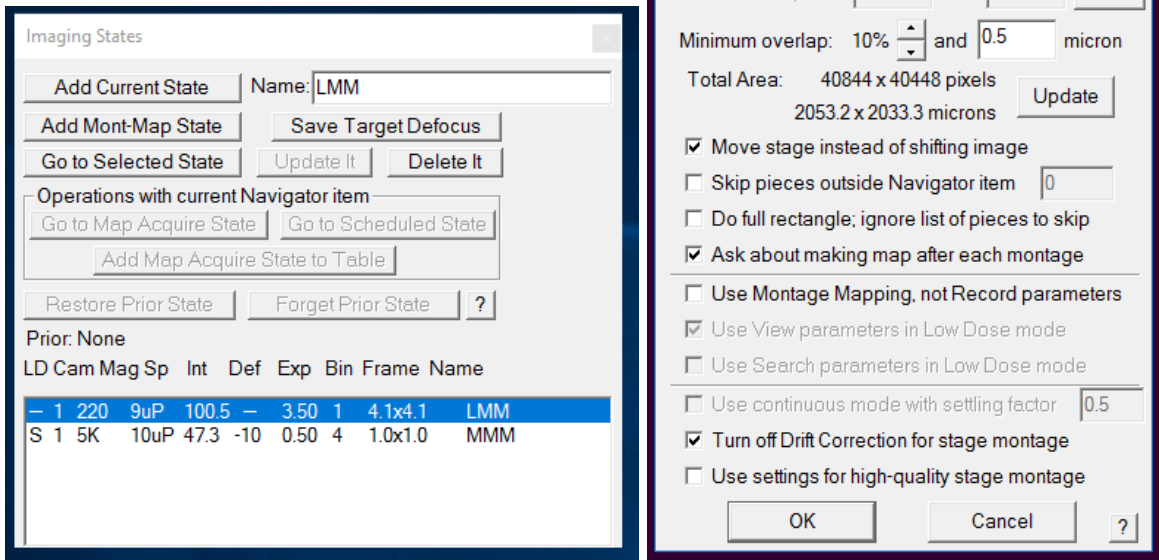

Figure 2: Image of the Imaging States Panel (left) and the Full Grid Montage Panel (right).
- c. Check and adjust the beam intensity on the screen. Take a Record image to see that the captured image looks good. Adjust the beam intensity and/or exposure time as needed. If you want to avoid having to change the exposure time for Record, it is also possible to set separate exposure time under Montage Mapping in camera setup and then use those for the low mag montage (Figure 2)
- i. Once you have ideal Low Mag settings, it's recommended to save these settings. Open the Navigator menu, then click Open Imaging States (Figure 2).
- d. For a Full Grid Montage, open the Navigator menu, then click on Montaging & Grids, then select 'Setup Full Montage'. The Montage Setup dialog will open (Figure 2).